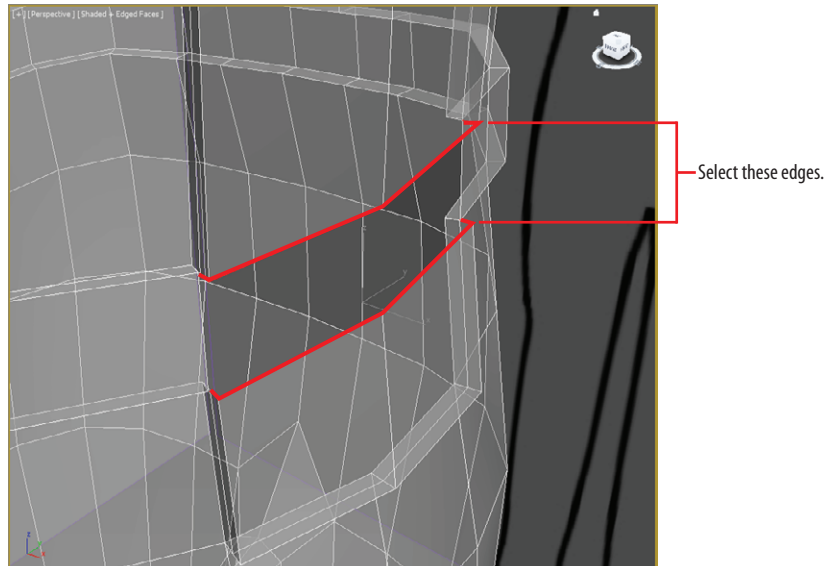

FIGURE 8.8 Select the highlighted edges.
6. Select Edge mode and then select the top and bottom edges around the newly deleted areas, as shown in Figure 8.8.